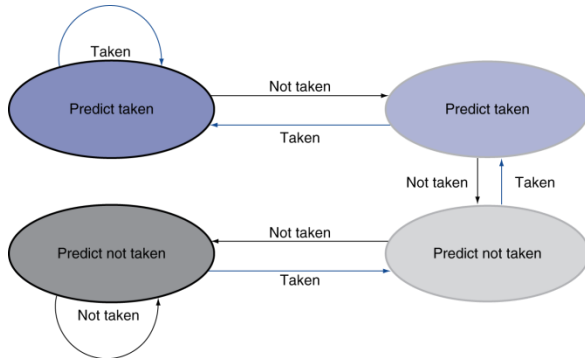

Figure 1: The states in a 2-bit prediction scheme.
- b. What is the accuracy of the two-bit predictor for the first four branches in this pattern, assuming that the predictor starts off in the bottom left state from Figure 1 (predict not taken).